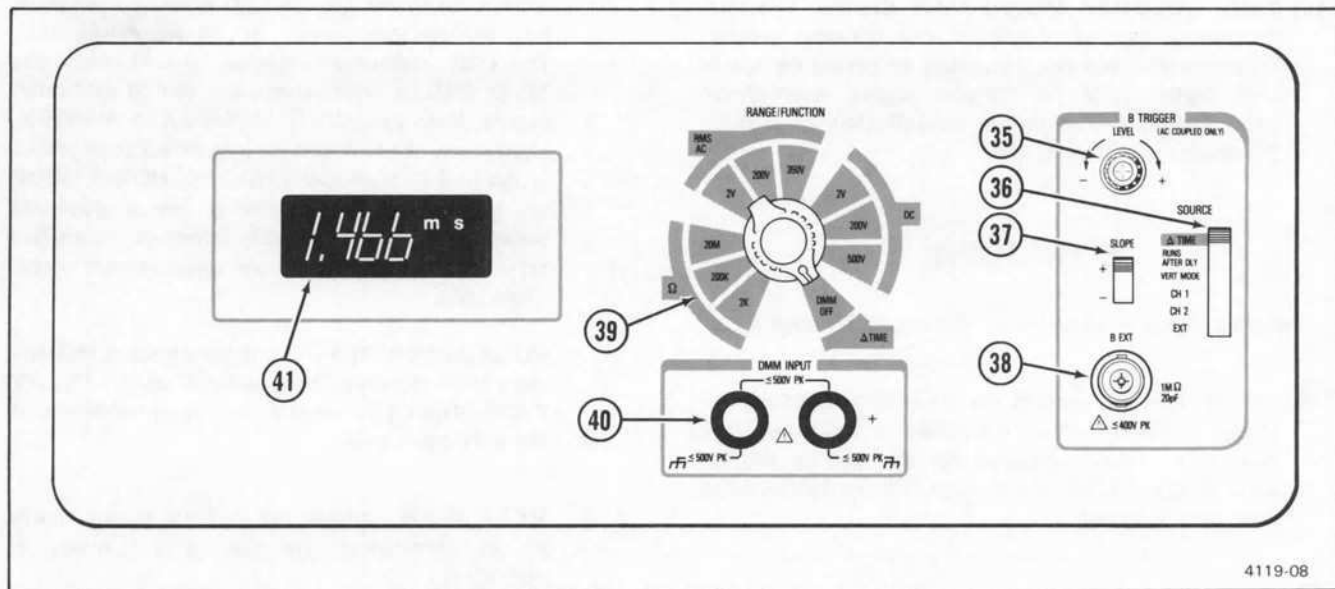

Figure 7. DMM and B TRIGGER controls, connectors, and LCD readout.
Refer to Figure 7 for location of items 35 through 41.